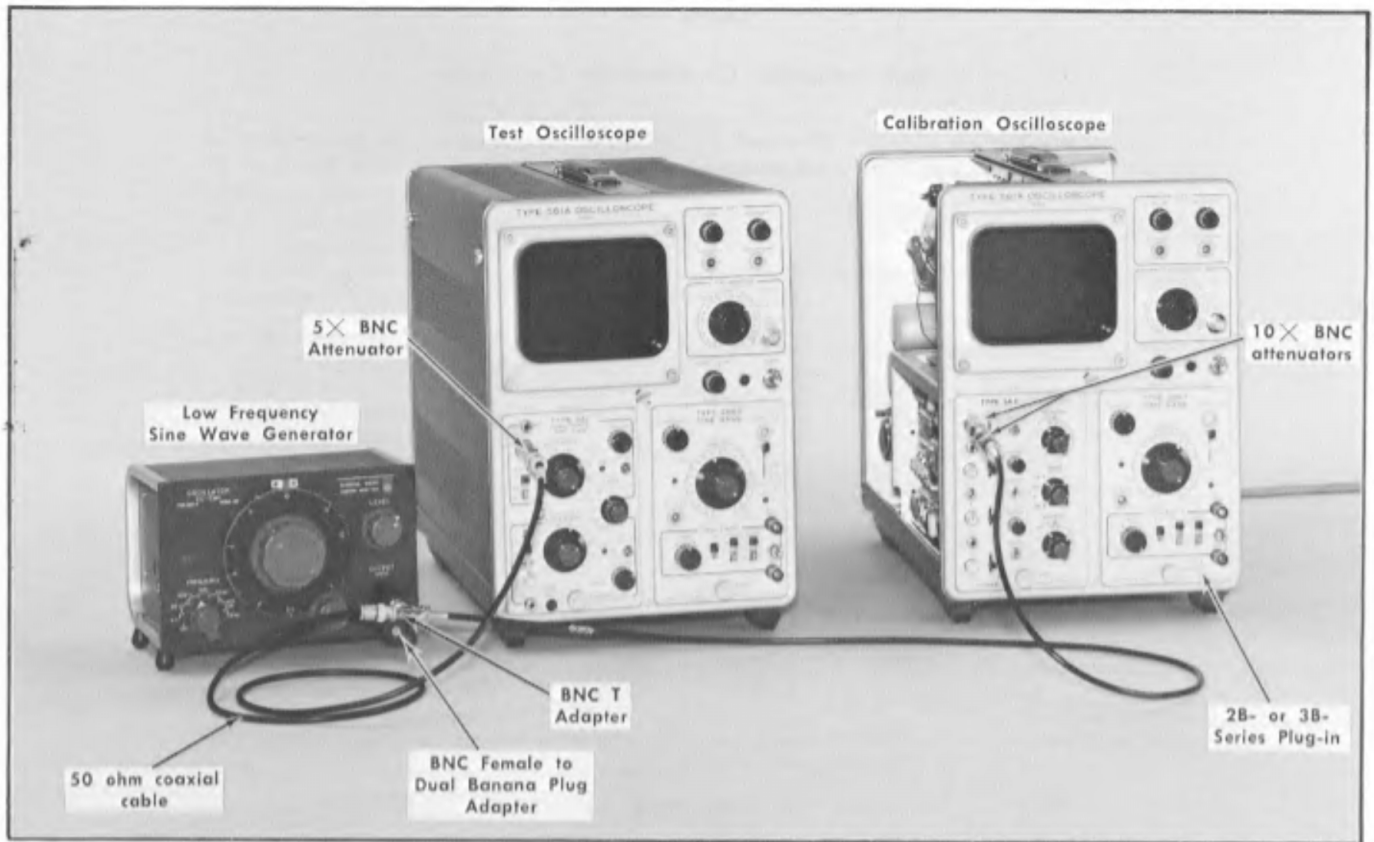

Fig. 6-19. Initial test equipment setup for steps 30 through 35.
- a. Test equipment setup is shown in Fig. 6-19.